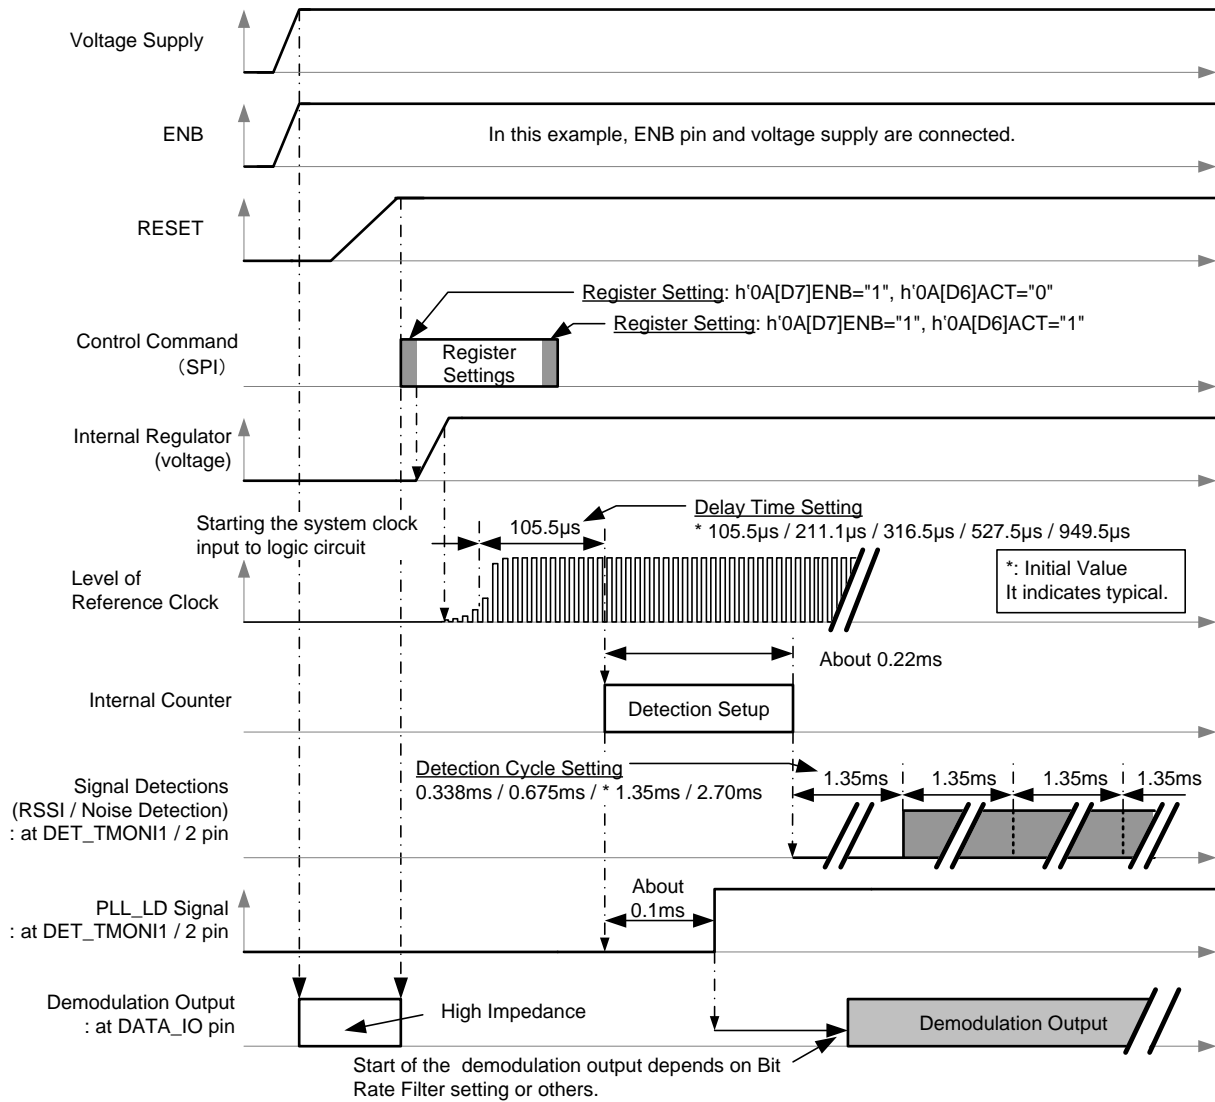

Fig 6-29 Example of Boot Sequence Timing Chart (SPI Mode / RX)
The following Fig 6-29 shows status transition from Battery Saving/Standby to RX-Run.
- To shorten the boot sequence of this IC, there is other way to be able to moving to Run without going through Standby. In this method, firstly set ENB pin = "H", h'0A [D7] ENB = "1" and h'0A [D6] ACT = "1", then set other registers. But in this way, if the internal setup and the register setting are overlapped each other, unexpected operation may occur. To avoid above, make the SPI speed too fast enough to communicate, or select the previous way as in Fig 6-29.